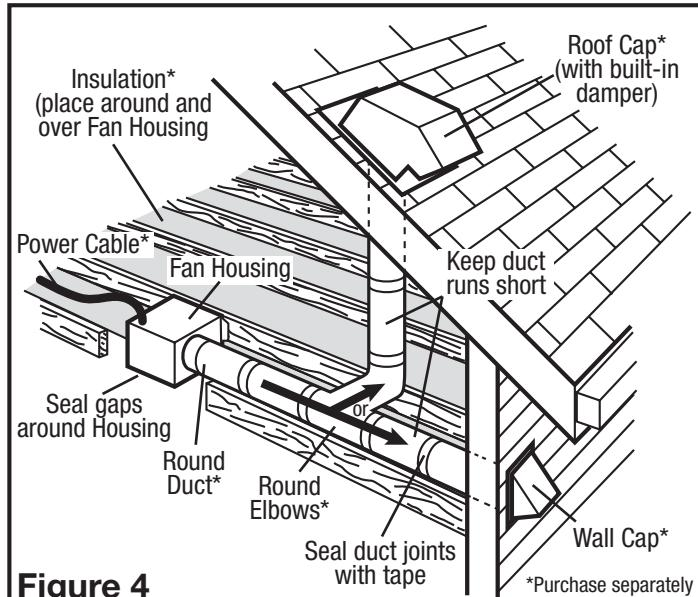

Figure 4
2. Ensure duct joints and exterior penetrations are sealed with caulk or other similar material to create an air-tight path to minimize building heat loss or gain and to reduce the potential for condensation. Place/wrap insulation around duct and/or fan to in order to minimize possible condensation buildup within the duct, as well as building heat loss or gain (Figure 4).